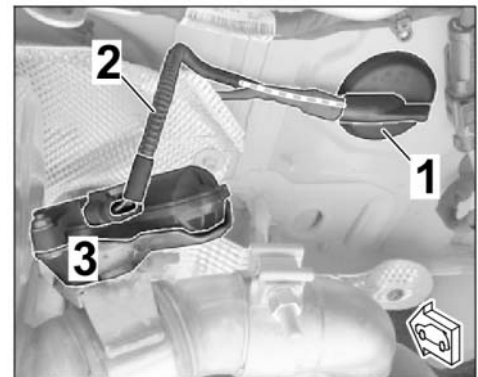

Figure 35
- 3.3.4 **ONLY** if a grommet with several lines is installed on the underside (including an exhaust flap branch (left/right of the standard rear silencer ⇒ *Figure 35*):